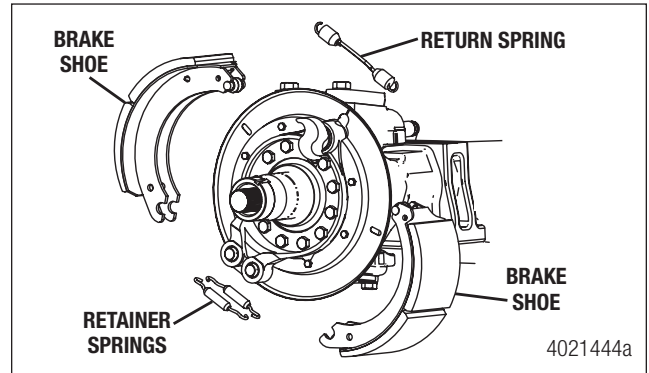

Figure 7.21
9. Install the brake shoes on the brake spider. Install the return springs and retainer springs. Lift the ends of the brake shoes and install the brake rollers. Figure 7.21.